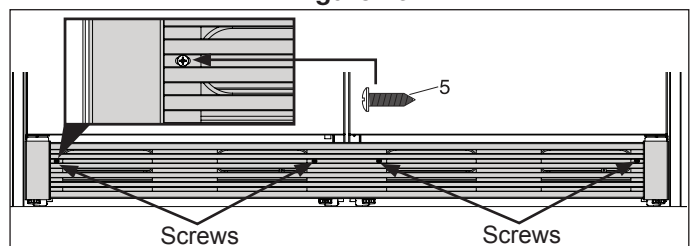

Figure 20
**(Dual Unit)** Attach the kick plate to the cabinet with four (4) screws. (See Figure 20).